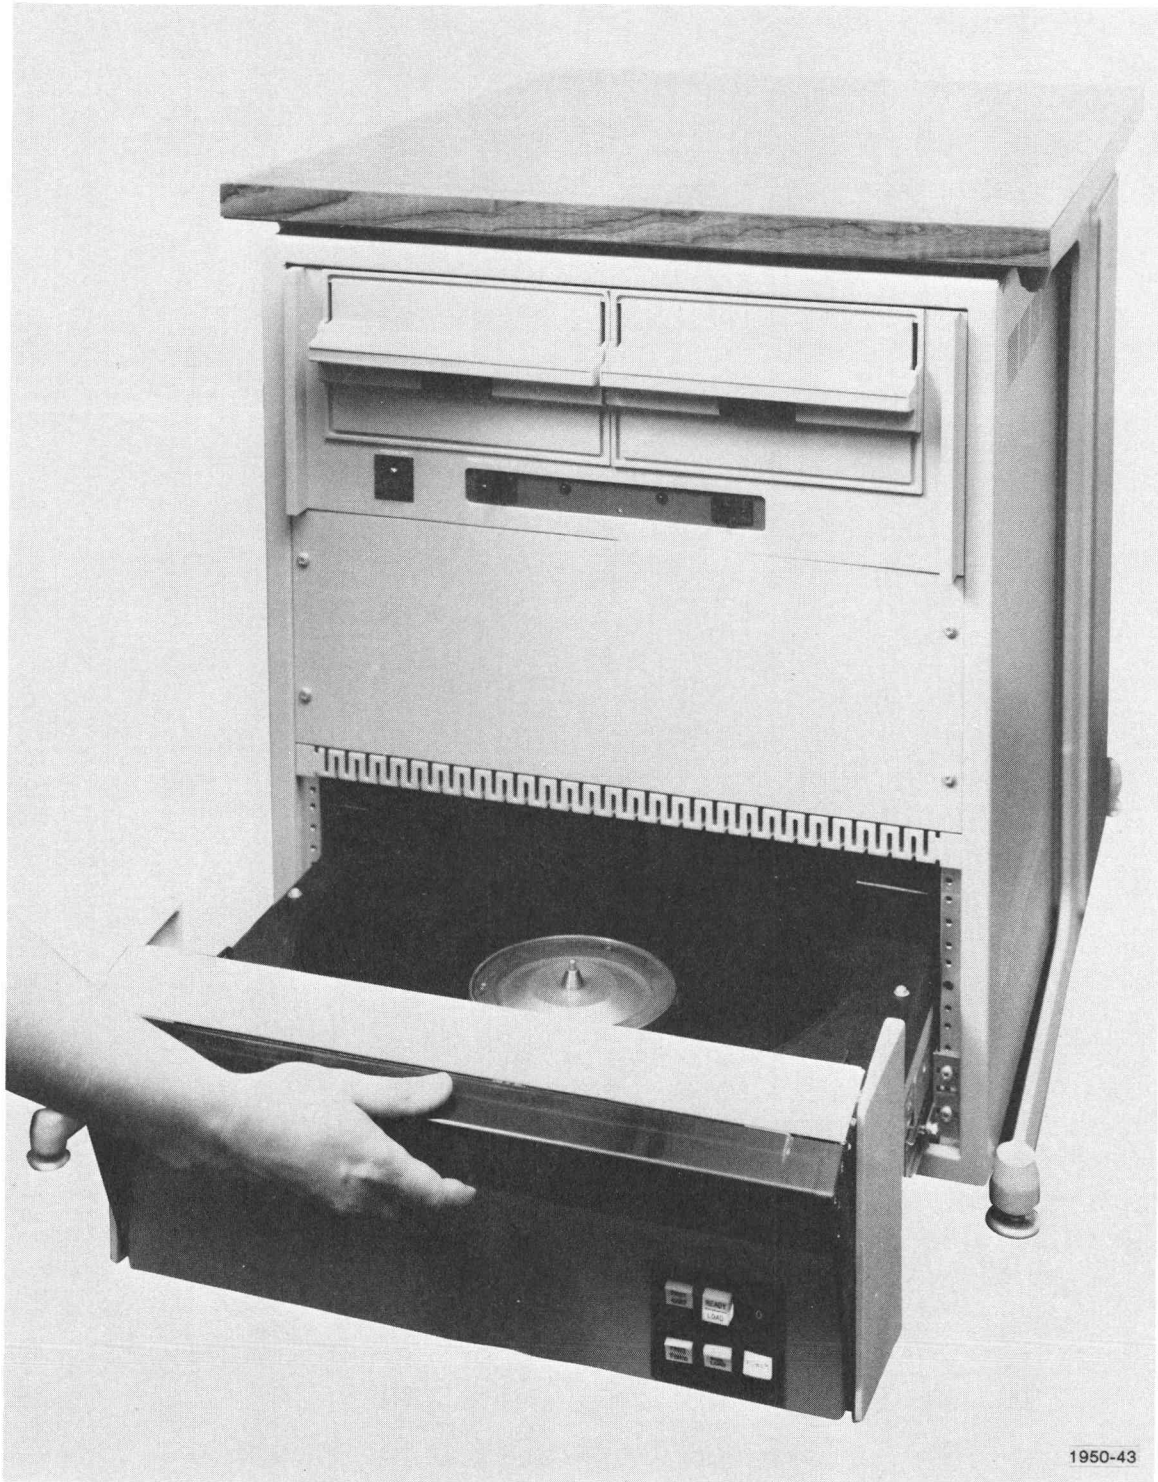

Fig. 8-18. Pulling the Hard Disc Unit drive out from the cabinet.
3. When the LOAD light is lit, place your fingers in the recess beneath the smoke plastic door on the front of the drive. Now pull the drive out from the cabinet as if opening a drawer (Fig. 8-18).